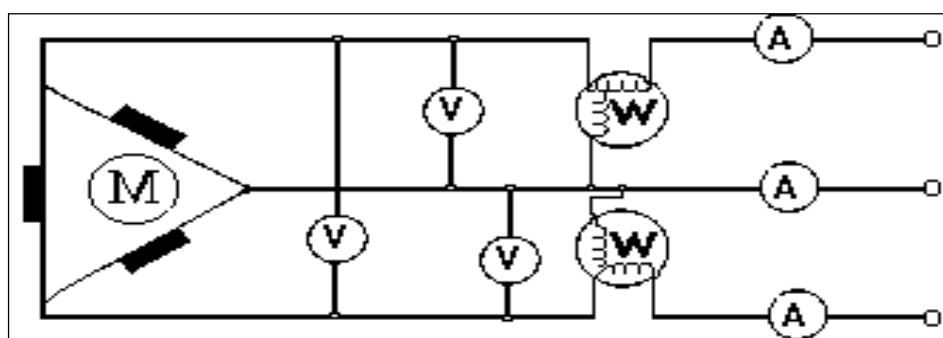

Figure 3.4: phase induction motor Δ -connected
1. Using FH90, connect the circuit as in Figure 3.4.